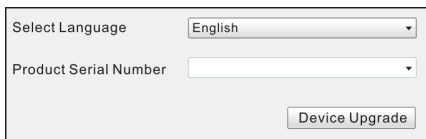

Figure 7-2
4. Launch the update tool, a screen similar to Figure 7-2 will pop out: